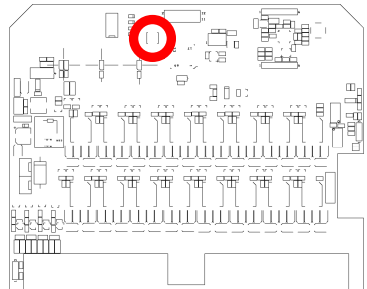

Figure 1. Coding button
3. Locate and press the coding pushbutton on the receiver board (blue button – fig. 1);
4. Press simultaneously the coding button on the receiver board (fig. 1) and **START** key on the transmitter for 3-4 sec., so release the 2 keys;
6. Press simultaneously the coding button on the receiver board (fig. 1) and **STOP** key on the transmitter for 3-4 sec., so release the 2 keys;